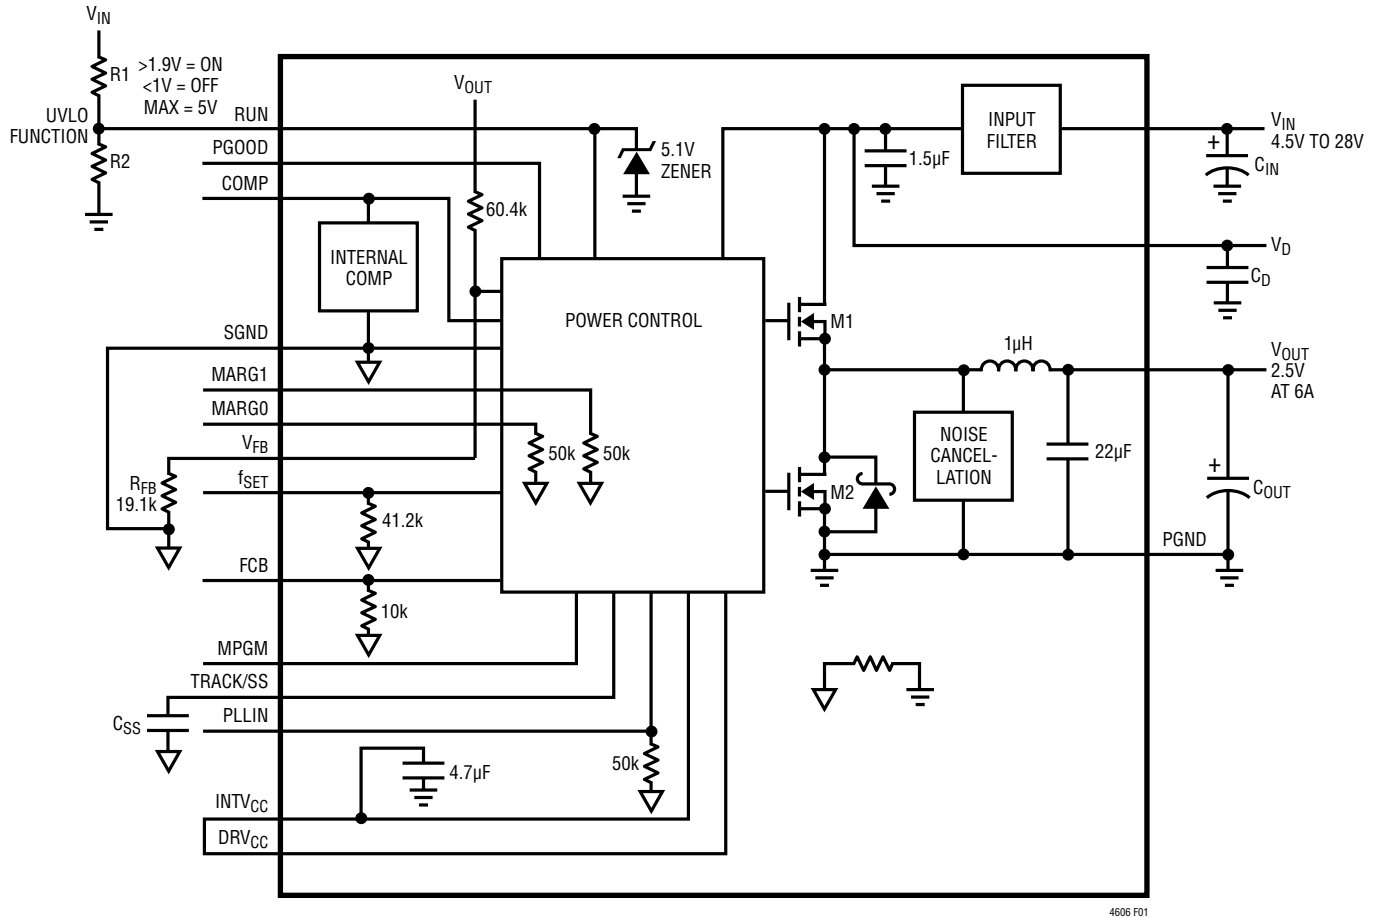

Figure 1. Simplified Block Diagram
**RUN (Pins A10, B9):** Run Control Pins. A voltage above 1.9V will turn on the module, and below 1V will turn off the module. A programmable UVLO function can be accomplished with a resistor divider from VIN to ground. See Figure 1. This pin has a 5.1V Zener to ground. Maximum pin voltage is 5V. Limit current into the RUN pin to less than 1mA.
## DECOUPLING REQUIREMENTS $T_A = 25^\circ\text{C}$ . Use Figure 1 configuration.
See Figure 1, Simplified Block Diagram.